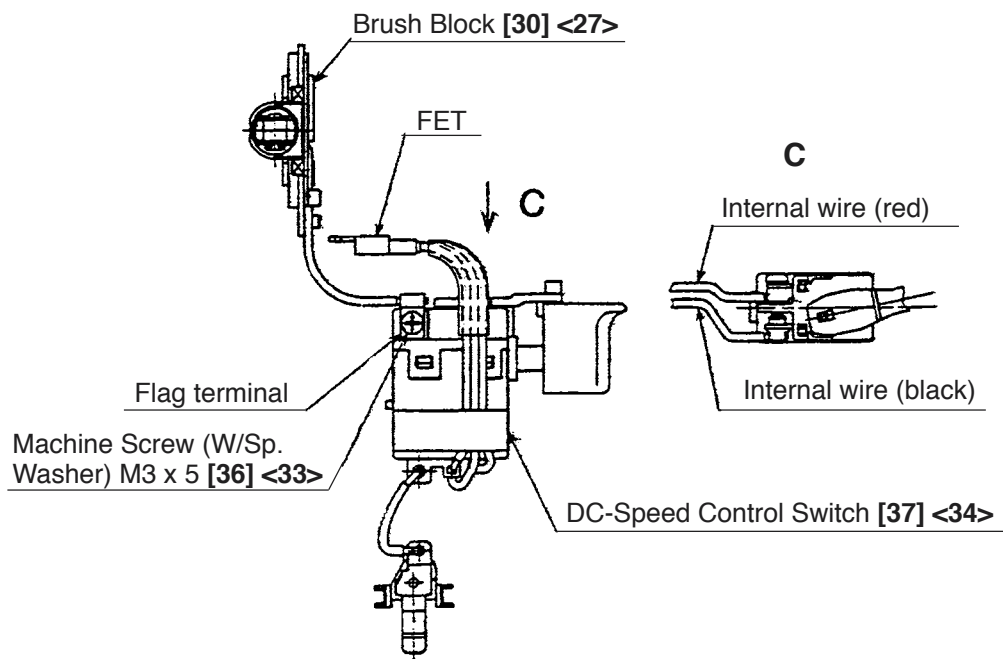

Fig. 13
- (a) Be sure to follow the wiring diagram (Fig. 13) for proper wiring.
- (b) When connecting the internal wires of the Brush Block [30] <27> to the DC-Speed Control Switch [37] <34>, fasten them with the Machine Screw (W/Sp. Washer) M3 x 5 [36] <33> paying attention to the direction of the flag terminal (Fig. 13).